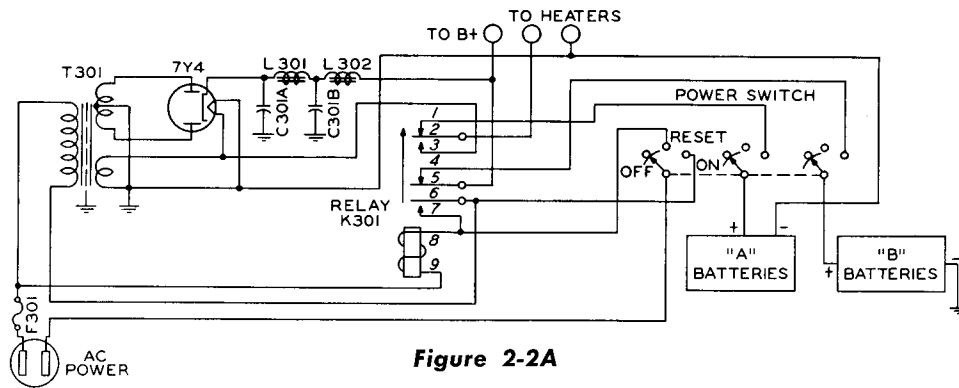
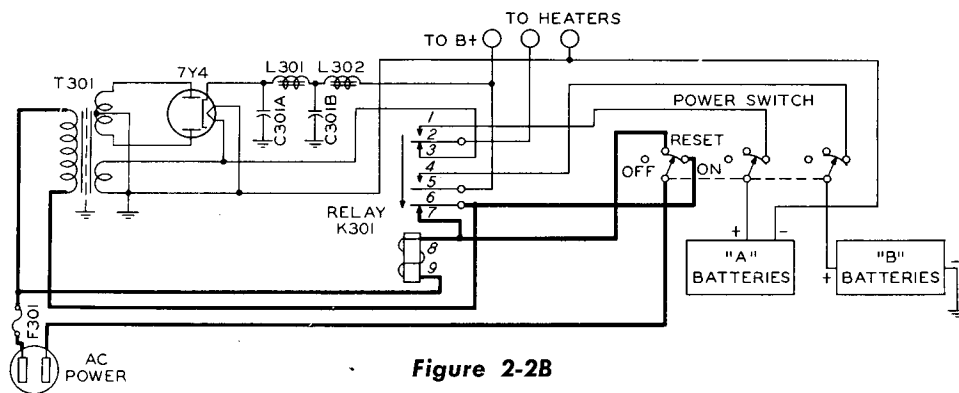
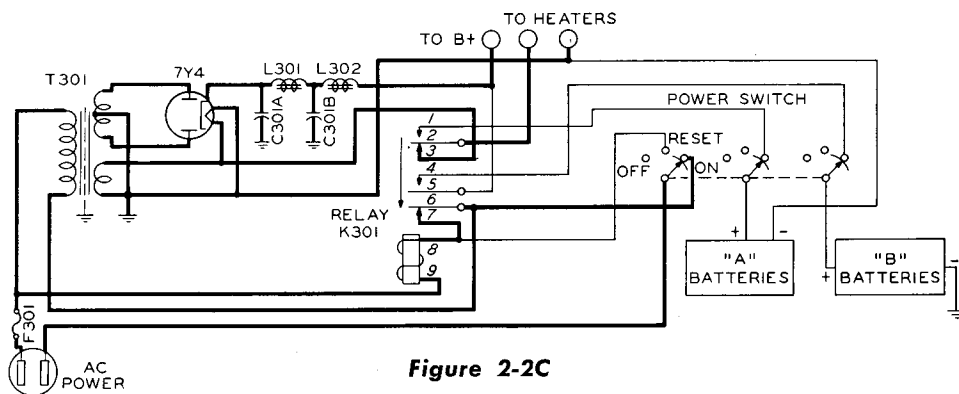

Figure 2-2A
Figure 2-2B
Figure 2-2C
**2.2.4. Power Supply.**—The 12Z equipment includes two power supplies, an a-c power supply and batteries. The a-c power supply uses a Type 7Y4 full wave high vacuum rectifier. The filter system consists of reactors L-301, L-302 and capacitors C-301A and C-301B. The battery requirements for the 12Z are 135 volts of "B" battery and 7.5 volts of "A" battery. A control is provided to adjust the filament voltage when batteries are used. This equipment is designed so that the batteries are automatically switched into operation if the a-c source fails. Refer to figure 2-2. Figure 2-2A shows the position of relay K-301 when the power switch is in the OFF position. Figure 2-2B, relay K-301 is energized as the power switch is rotated through the RESET position. Figure 2-2C, the power switch is in the ON position and relay K-301 is held energized by contacts 6 and 7 of K-301. Figure 2-2D, the line voltage has failed and has opened relay K-301 thus switching the batteries into operation.